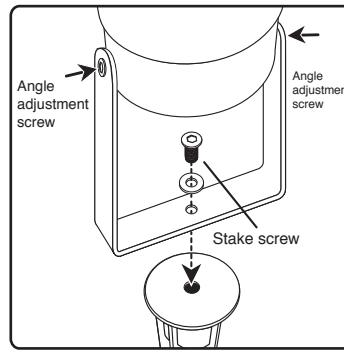

Fig.1
2. Attach ground stake – Remove the hex screw and washer from the stake with the included tool. (Fig.1)
5. Position the projector by loosening and tightening the angle adjustment screws. (Fig.1)